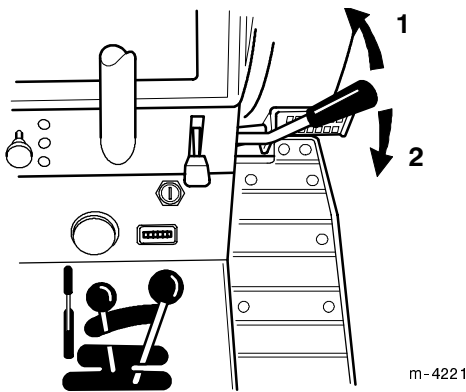

Figure 8
2. Push the power take off (PTO) lever forward to engage (Fig. 8).
2. Pull the power take off (PTO) lever back to disengage (Fig. 8).